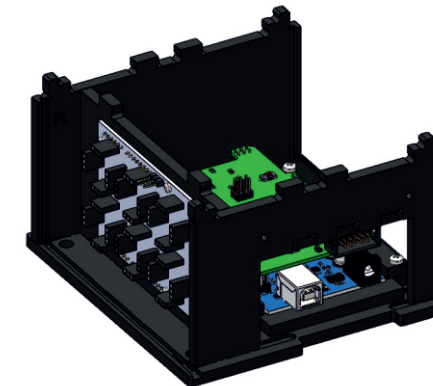

Fig. 42: Mounting the second side wall on the base plate
9) Mount the second side wall on the base plate (Fig. 42):